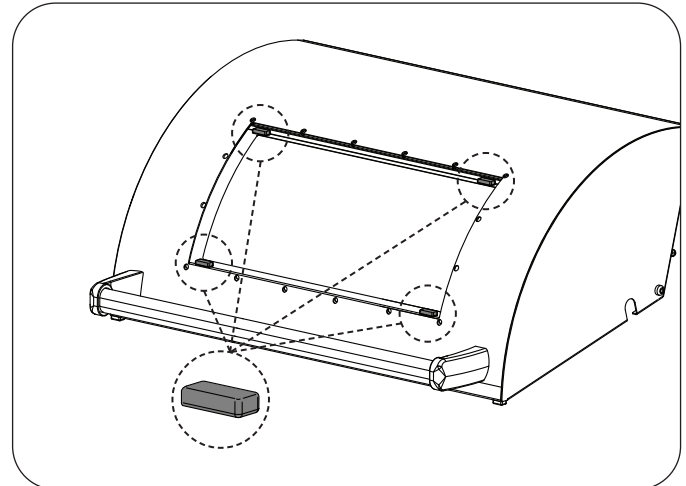

Fig. 1-2 Remove window and install felt pads
4. Place the 4 included felt pads onto the top and bottom flanges as shown in Fig. 1-2. The new window will rest on the pads. The help of an additional person is recommended to hold the pads in place.